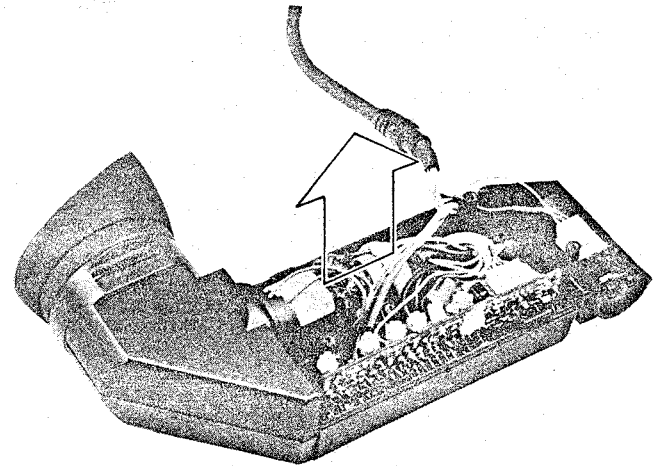

Fig. 2-139 Electronic Viewfinder (EVF) Circuit Board
Electronic Viewfinder (EVF) Circuit Board Removal (Figs. 2-139, 2-140)
2. Pull out the electronic viewfinder (EVF) circuit board, CRT and mic jack circuit board in the direction of the arrow. (See Fig. 2-139)
2. Remove the EVF circuit board. (See Figs. 2-139, 2-140)